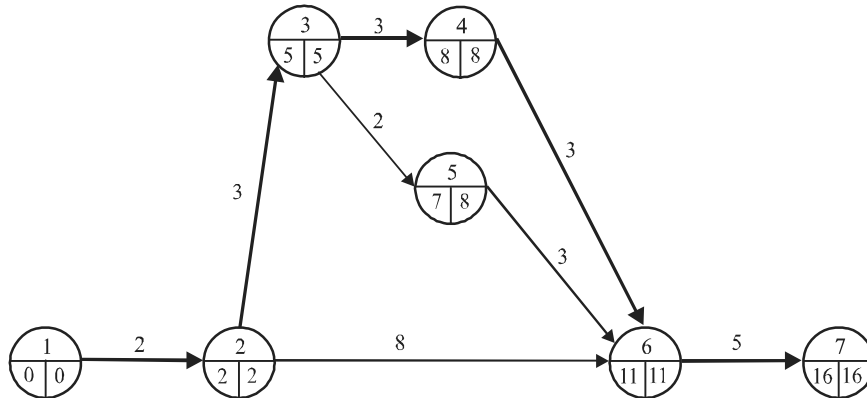

Fig. 10.18
**Step 4 :** Now we can take up activity 6-7 (next least slope i.e., 1,333) for crashing from 8 weeks to 5 weeks giving network as follows : (Refer Fig. 10.18 )